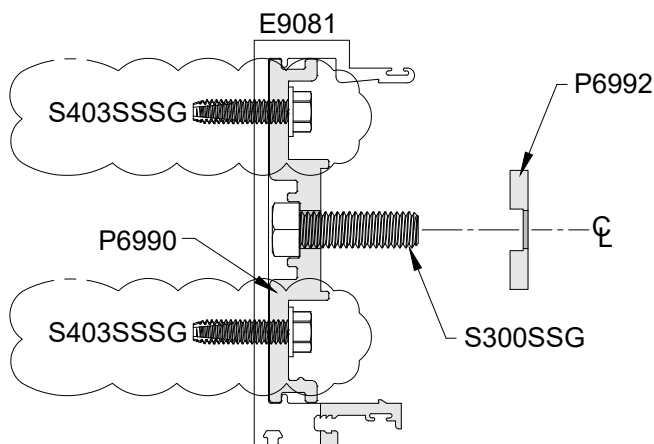

Fig. 1
- Step 4: Assemble window frame attaching horizontal to vertical mullion using S403SSG through sun shade bracket anchor into frame horizontal. See Fig. 1.**